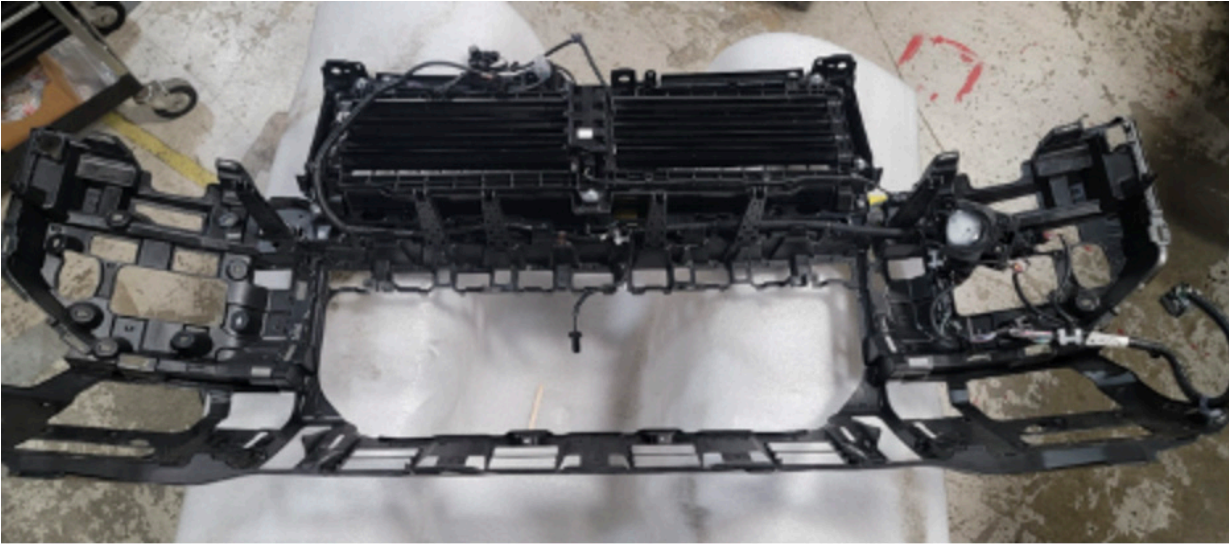

Figure 23.
19. Once complete, the bumper frame should look like Figure 23 and be ready for trimming. Figure 23.